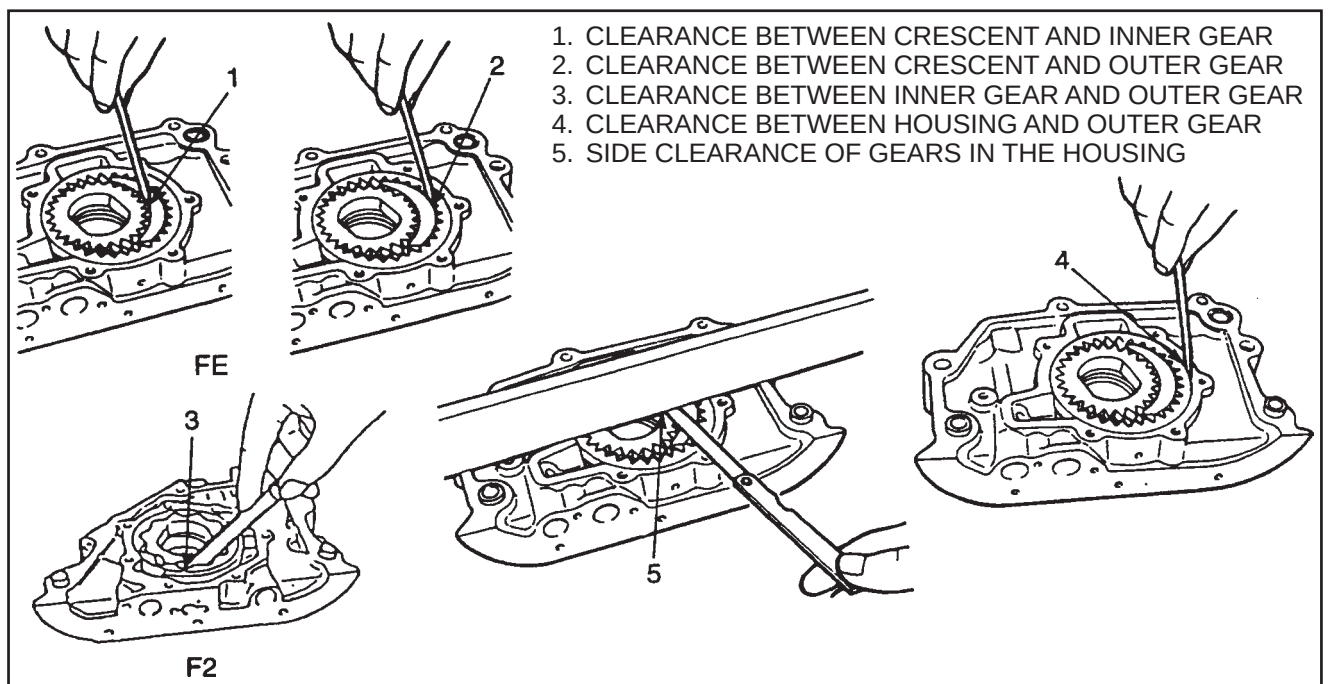

FIGURE 41. MEASURE THE OIL PUMP
2. See FIGURE 41. Measure the parts of the oil pump as follows: